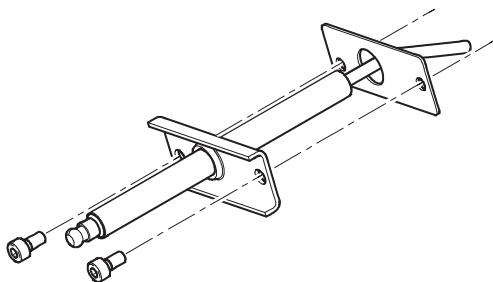

Figure 31: Flame Rod Assembly
- Install flame rod as shown in Figure 31.